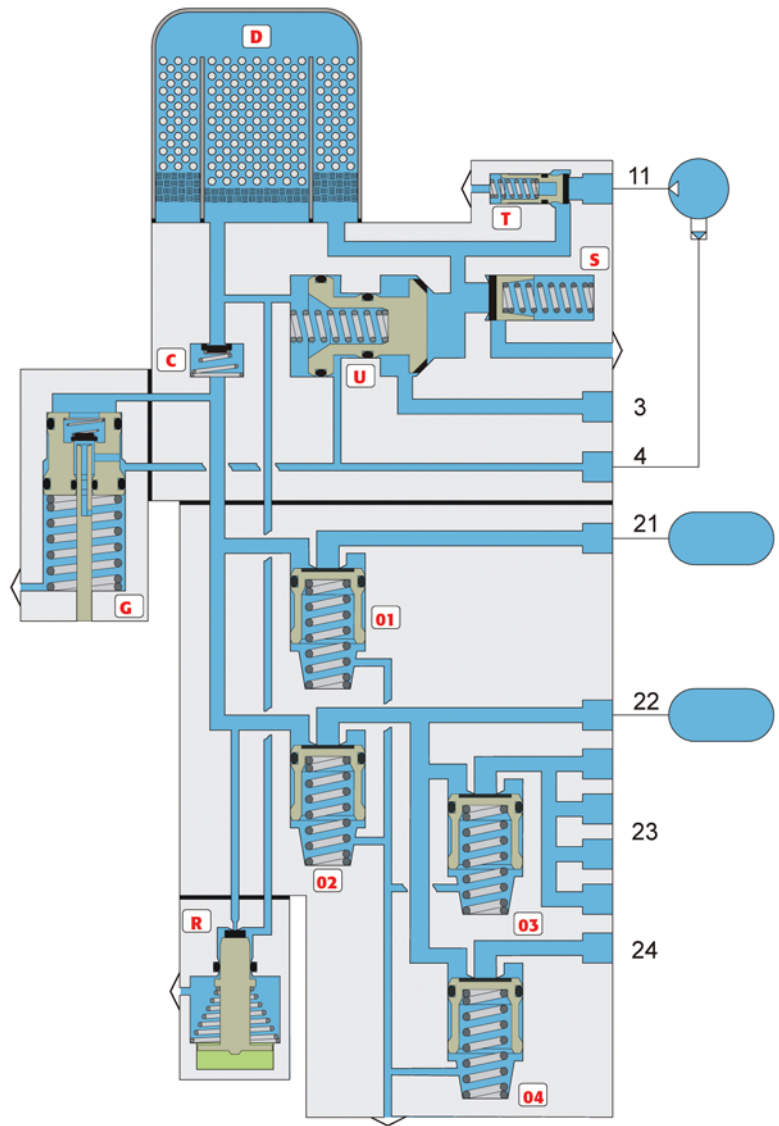

Figure 2: ModulAir® dryer and air system with no pressure in the dryer or the air brake circuits
In an unpressurized state, all valves internal to the ModulAir® assembly should be in the closed position as shown in Figure 2. This includes the turbo protection valve (T), safety valve (S), unloader valve (U), check valve (C), regeneration valve (R) and all pressure protection valves (O1...O4).